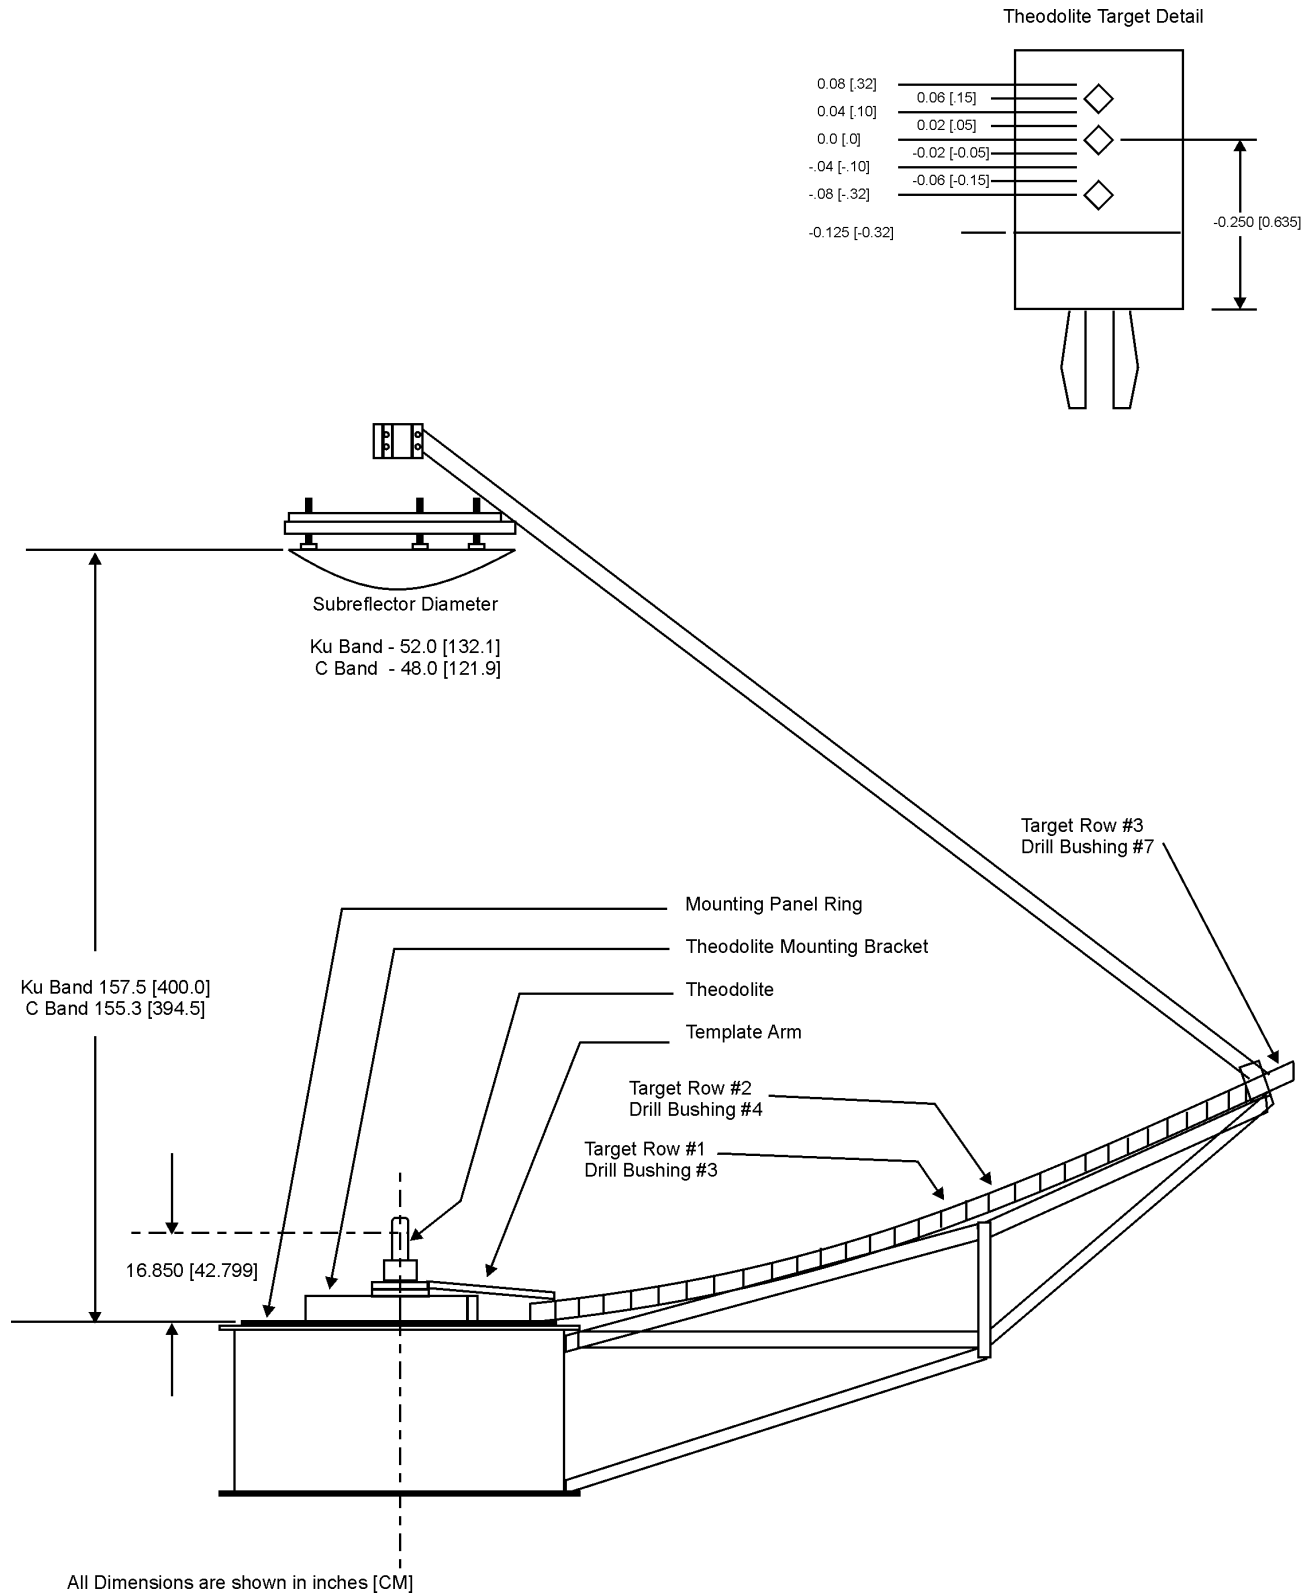

Figure 2-1. 9-Meter Antenna Reflector and Subreflector Alignment
2. Install the theodolite onto the mounting bracket. Level the theodolite over its three feet using an 18-inch machine scale, measuring 16.850 inches [42.799 cm] up from the panel mounting ring. (See Figure 2-1.)
Refer to Figure 2-1 for clarification of alignment procedures. The theodolite
7. The Target Detail in Figure 2-1 shows the layout of the target. An ideal setting will occur when the theodolite elevation crosshair is centered on the middle diamond. Dimensions to other diamond points are given as an indication of the adjustment required to obtain the ideal setting.
4. Using the three threaded subreflector adjusting rods, adjust the distance of the subreflector from the panel mounting ring to match the dimension given in Figure 2-1 for the appropriate antenna operational frequency band. Make the measurement the same at the edge of the subreflector near each of the three rods.